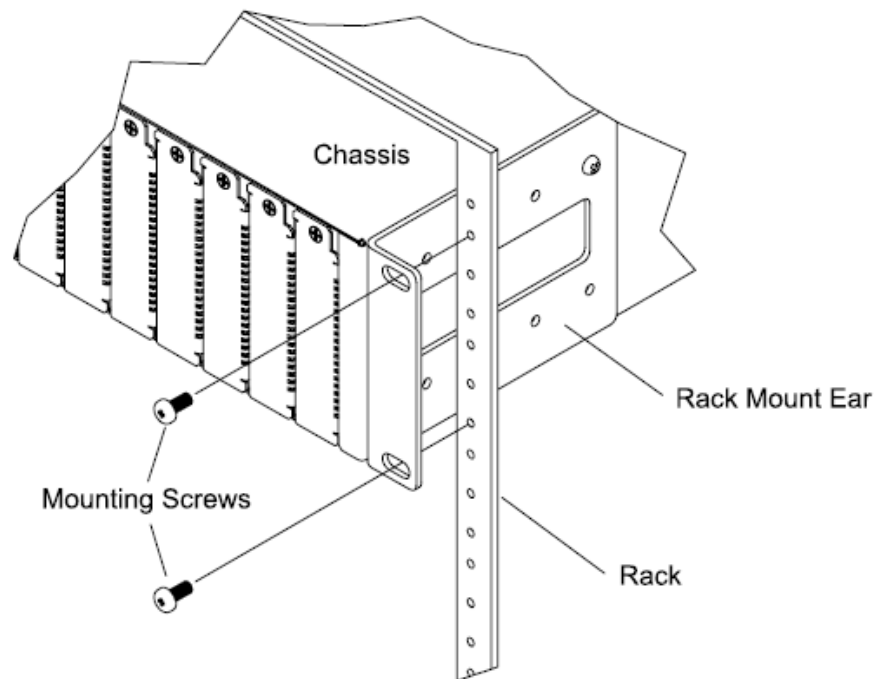

Figure 8: Rack Mounting
2. Locate four (4) mounting screws (not provided) and optional clip-nuts (not provided) for each chassis to be installed.
3. Carefully position and align the chassis to the mounting holes in the rack, as shown in Figure 8 below.
4. Install two (2) screws through the right bracket into the right mounting rail and two (2) screws through the left bracket into the left mounting rail, using the clip nuts (not provided) to secure the chassis to the rack.